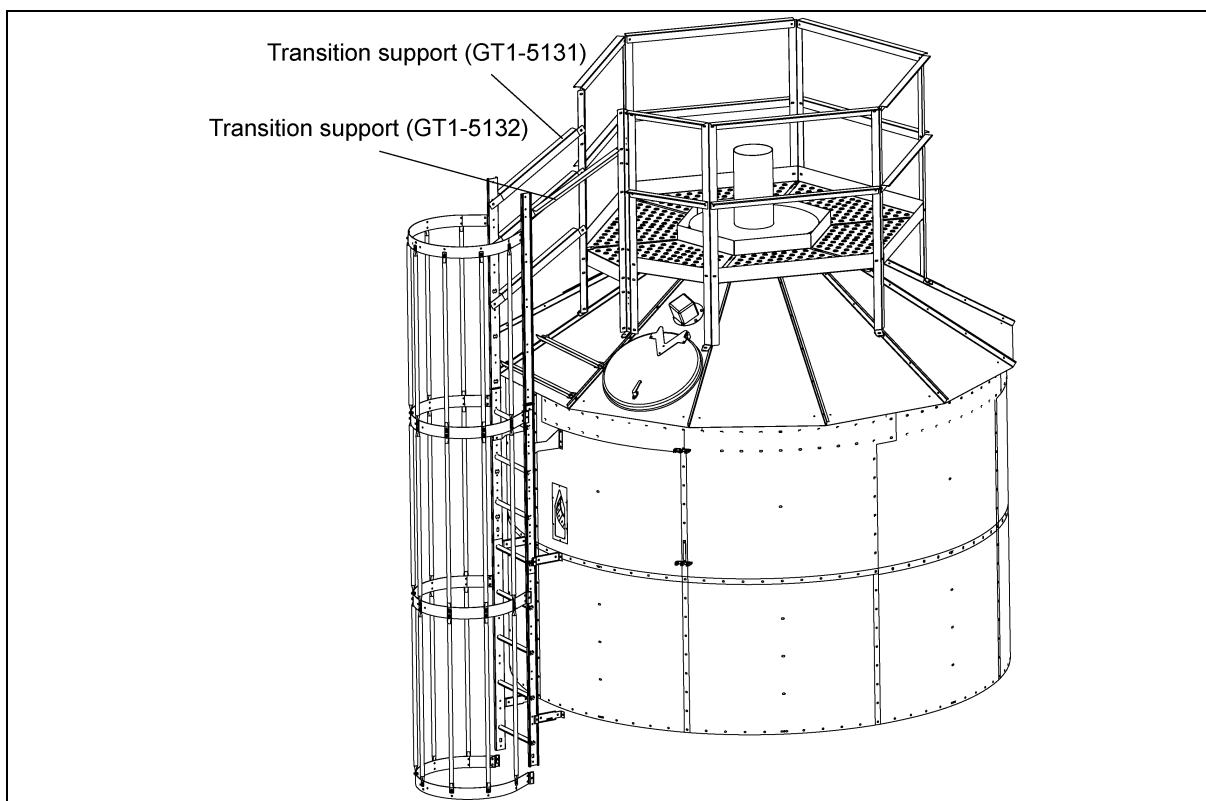

Figure 3N
2. Install the Peak Walk Around Assembly on the roof such a way, the entry would align with the ladder. (See Figure 3N.) Assemble transition supports (GT1-5131 and GT1-5132) using 5/16" hardware as shown in Figure 3N.